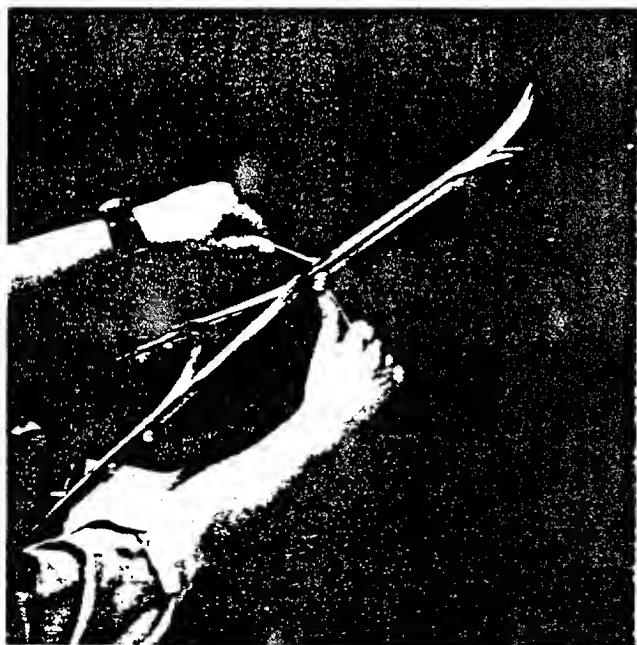

FIGURE 4.
3. Place the upper handle over the lower handle and start the four remaining screws and nuts. After all six screws and nuts are hand tight, tighten with two 7/16" wrenches. See figure 4.